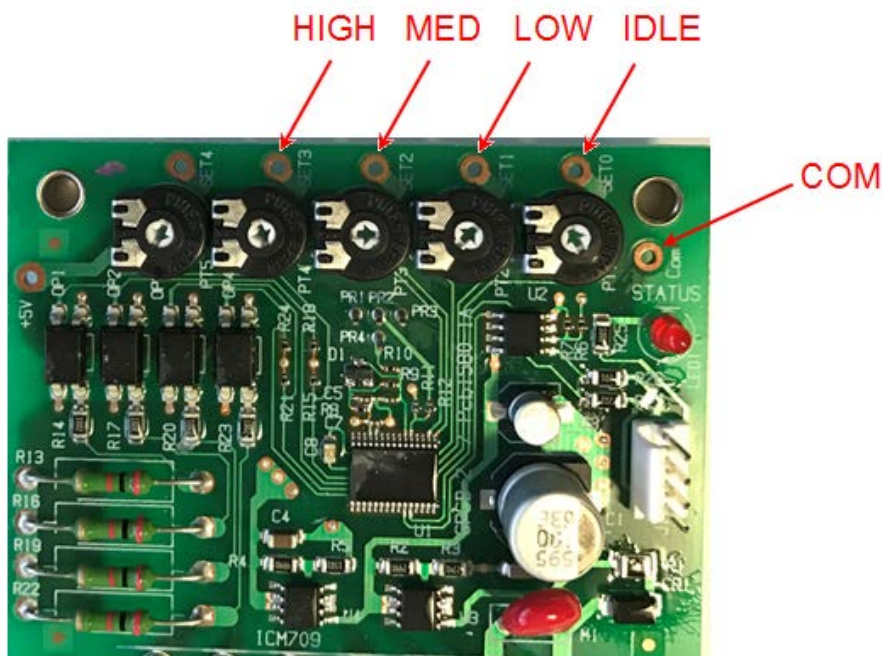

Figure 3 - Select PWM Test Points (front)
3. Measure the DC voltage between test points SETx and COM. (see Figures 3 and 4 for location of test points depending on front or back view).